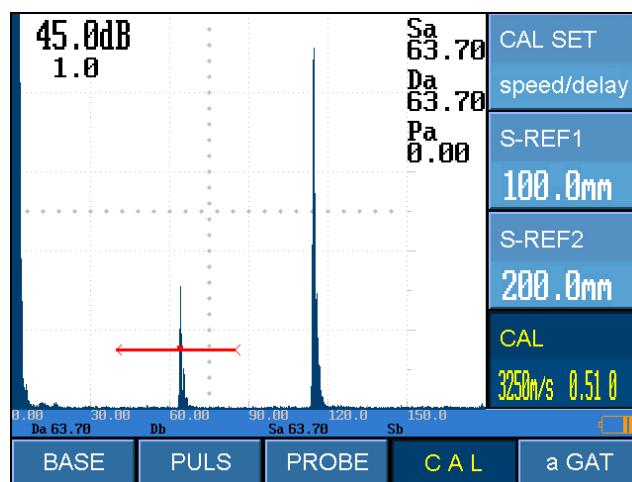

Figure 6-5 Move Gate A to Capture the Echo of R50 arc
- (4) Move Gate A to capture the echo of R50 arc (refer to Figure 6-5). Enter the CAL submenu and press [+] key to confirm, then echo1 is recorded.